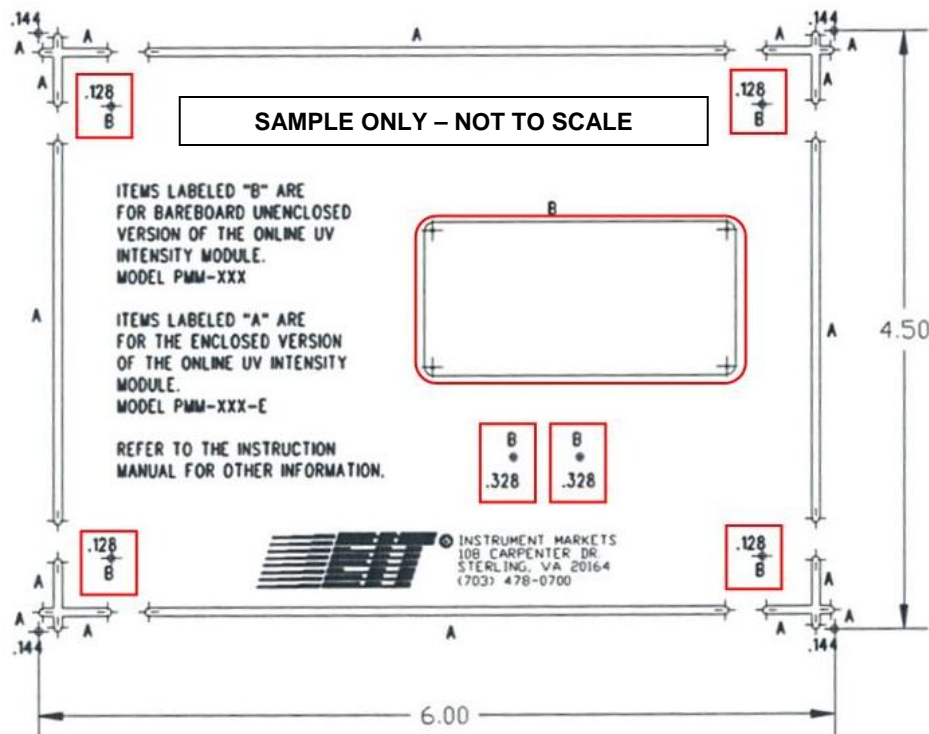
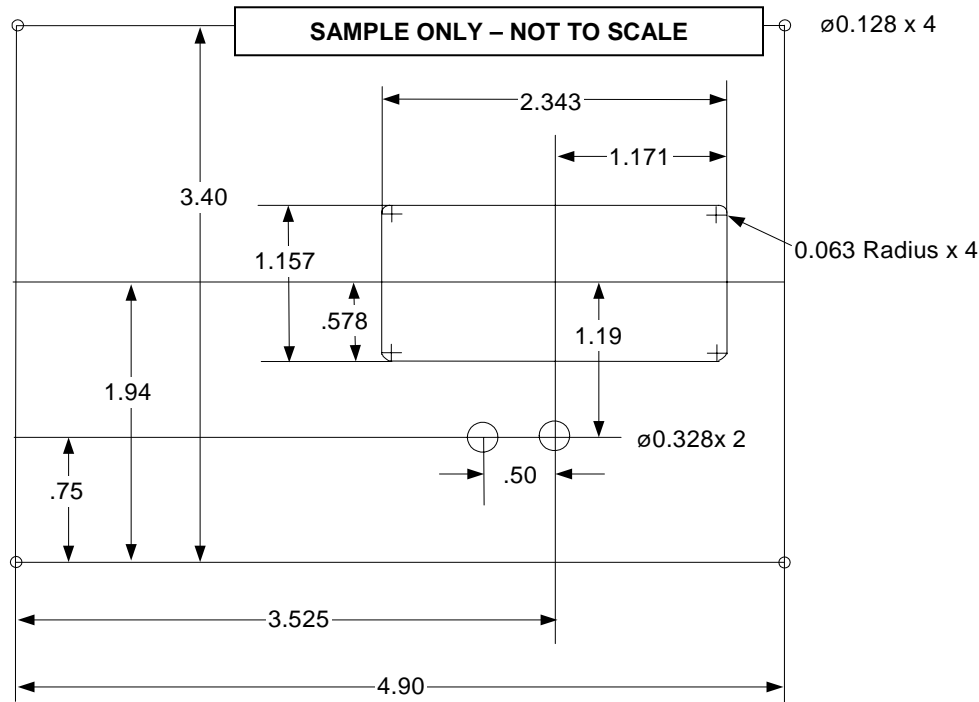

Figure 25: Unenclosed Module "B" Cut Lines and Drill Holes
Figure 26: Unenclosed Module Installation Mechanical Drawing
To install the unenclosed PCBA in a control panel, the front and back enclosure must be removed and cutouts for the LCD, two LEDs, and four screws must be cut from the control panel. EIT provides a cut and drill template (part number 92332A) in the accessory kit (See Figure 25). Figure 26 provides the required cutout dimensions.
- The drill template (part number 92332A) shows cut lines and drill holes marked "A" and "B". USE ONLY THE CUT LINES AND DRILL HOLES MARKED "B". Figure 25 marks the cut lines and drill holes in red.
- Mark the LCD cutout using the dimensions in Figure 26.
- Mark the two 0.328" diameter drill holes for the LEDs. See Figure 26 for drill locations.
- Mark the four 0.128" diameter drill holes for the 4-40 screws. See Figure 26 for drill locations.